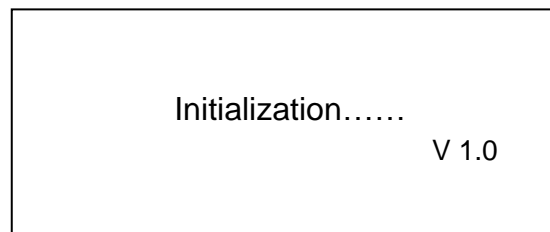

Figure 7-1 Initialization interface
■ The LCD screen displays a welcome interface, in the meantime, this centrifuge starts a self-checking process for preparation. (Figure 7-1).